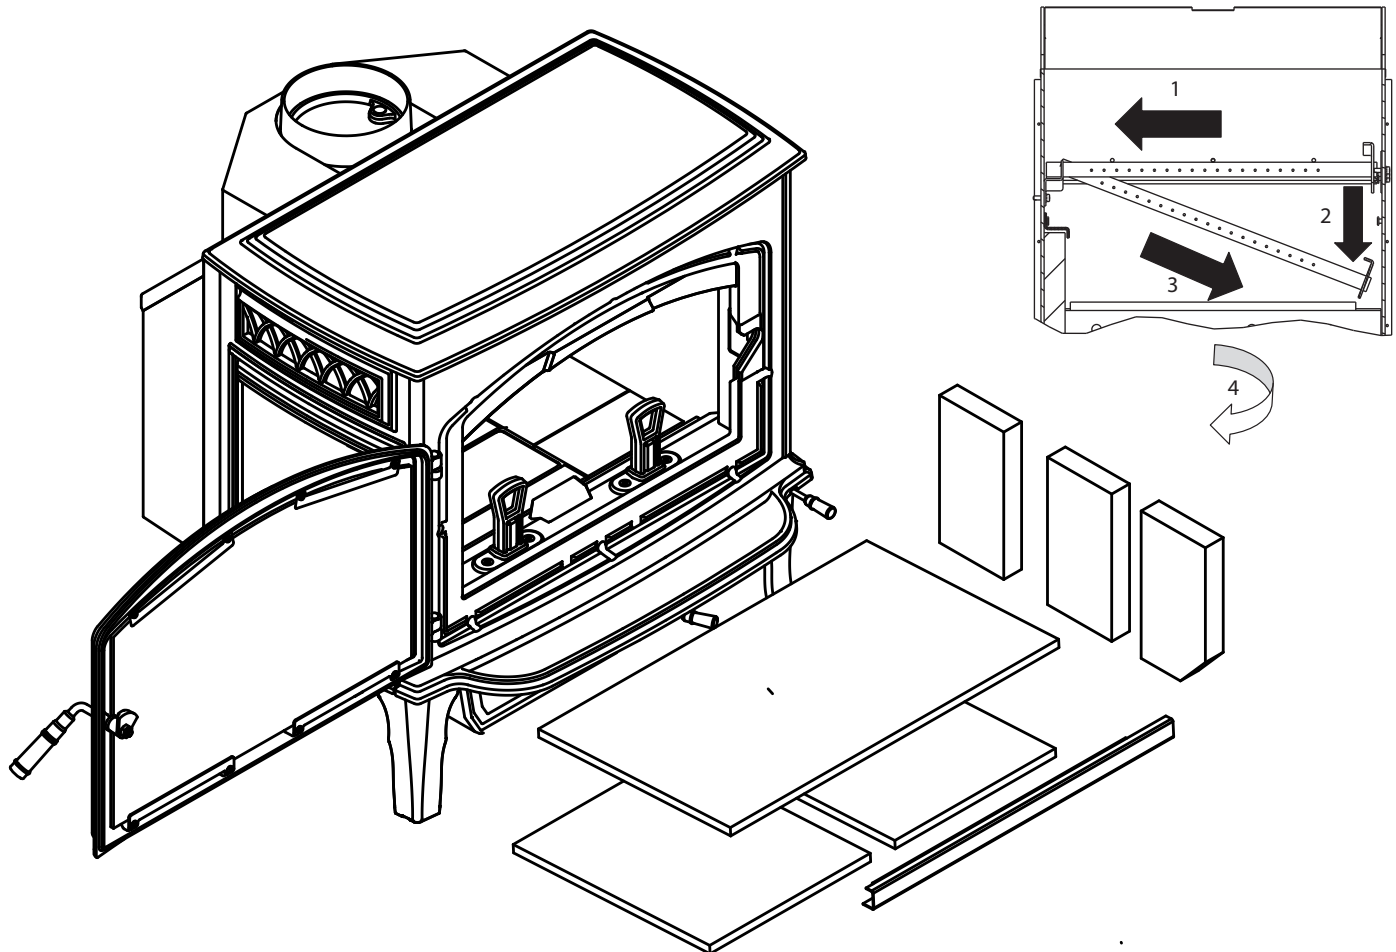

Figure 24.3
4. Slide the tube channel assembly all the way to left until it is off the threads. Drop the right side down, then slide the assembly back to right. **Figure 24.3**